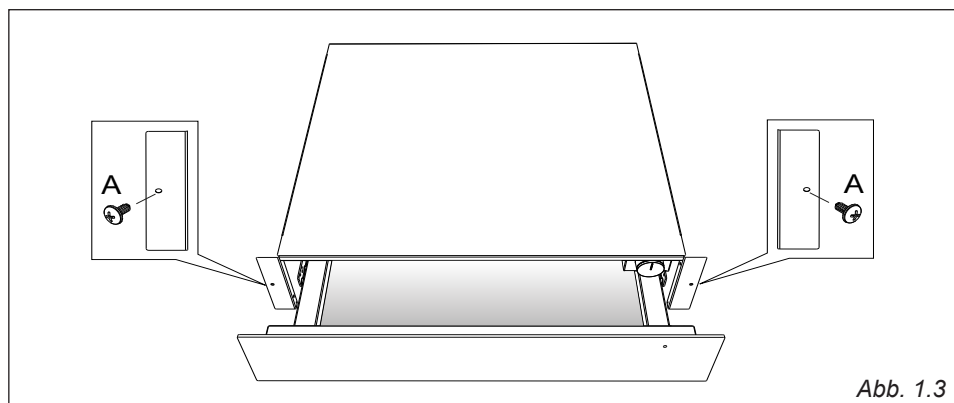

Abb. 1.3
- Open the drawer and fasten it to the sides of the unit by screwing the two screws (not supplied) "A" (fig. 1.3).